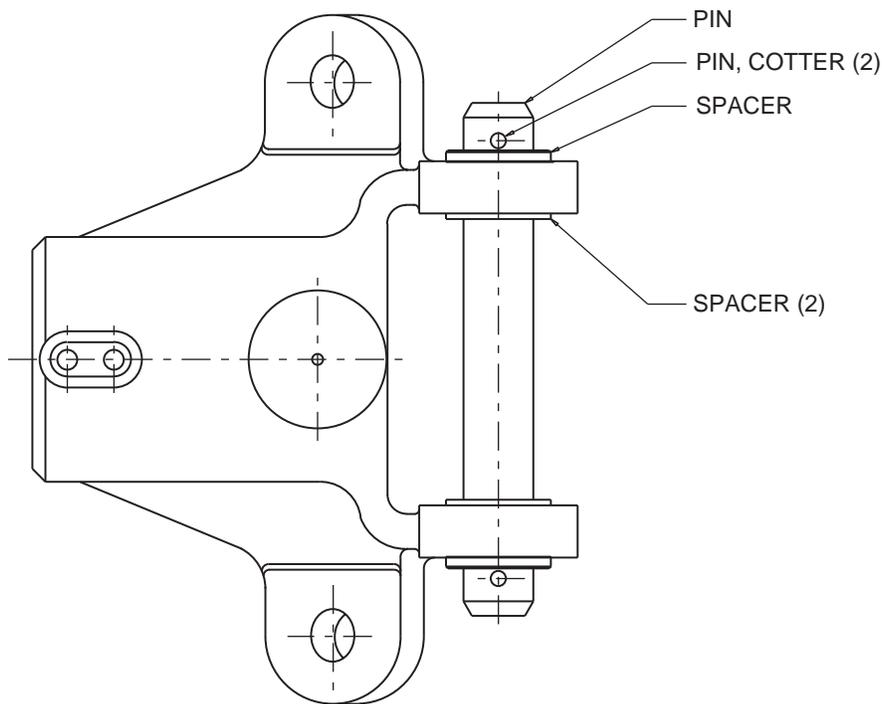

Figure 11. Trim Cylinder Mount
The trim cylinder provides the capability to position the drive at differing trim angles depending on operating conditions. The following procedure sets the trim cylinder at mid-travel. See Figure 11 for assembly instructions for the cylinder yoke.
1. Connect the trim cylinder to the thrust tube using the supplied mounting hardware. See Figure 11.